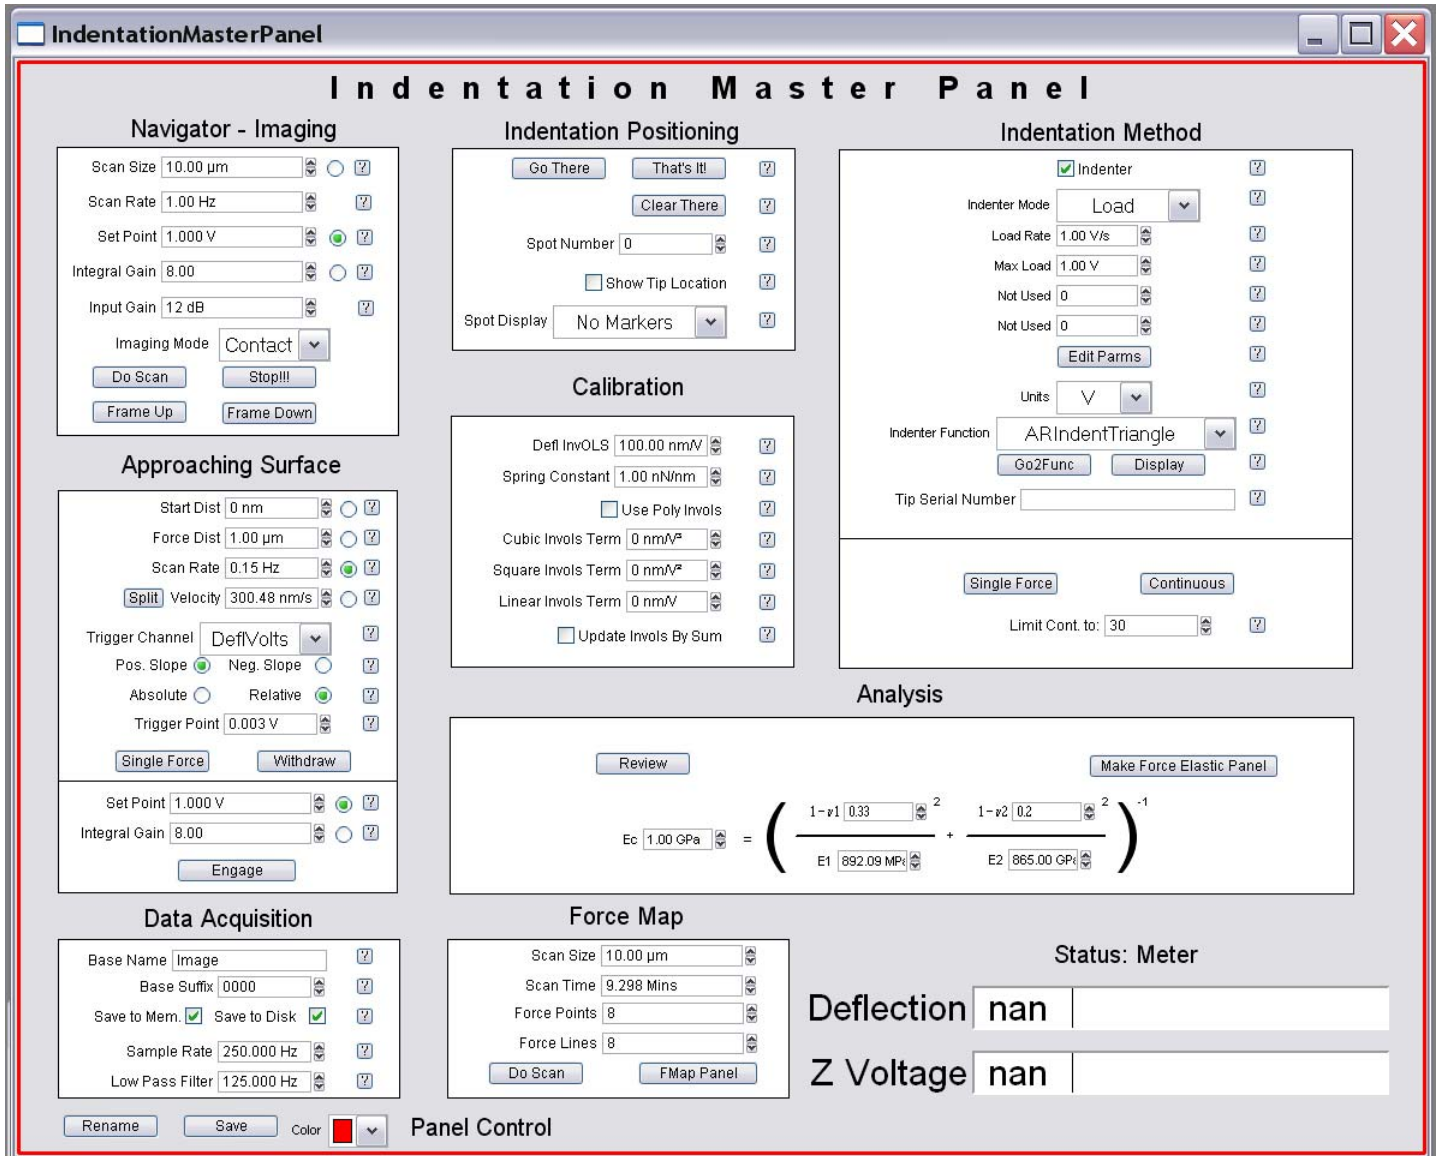

Figure 11.4.4.6: The Master Indentation Panel has most pertinent experimental parameters in one convenient place.
•An example of a cantilever based indent using the AR indent Panel is seen in Figure 11.4.4.7. It was acquired from a 'point and click' user defined force curve on a polymeric particle, using a 40.07 N/m Si cantilever in air (InvOLS 60.60 nm/V). The intent was to be able to compare the approximations of fitting the load data with Hertzian mechanics, and the unloading data with the Oliver Pharr algorithm (See Section 11.5.X- Elastic tab). Therefore the approach was to apply about a ~5nm deflection trigger with the force tab (this would allow hertzian fitting), then kick in the closed loop indenter to apply ~1.2 μN load/unload cycle, before the retract cycle kicked back in.